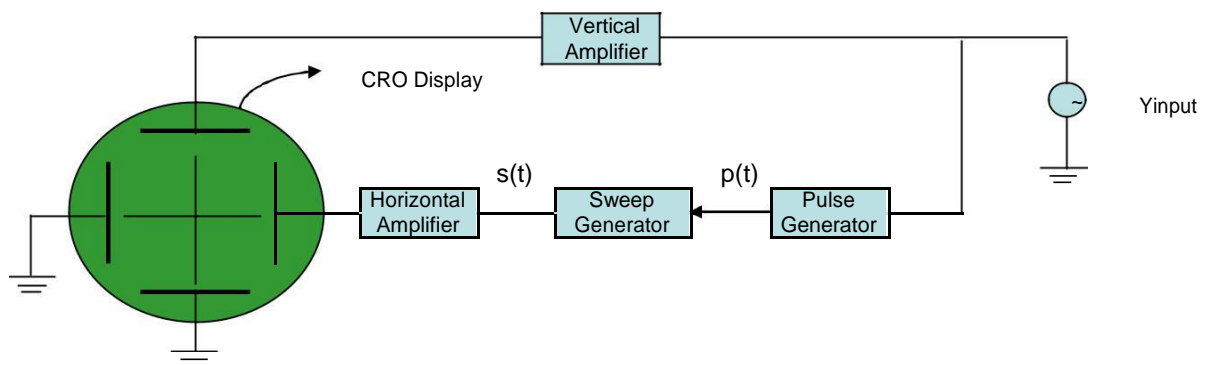
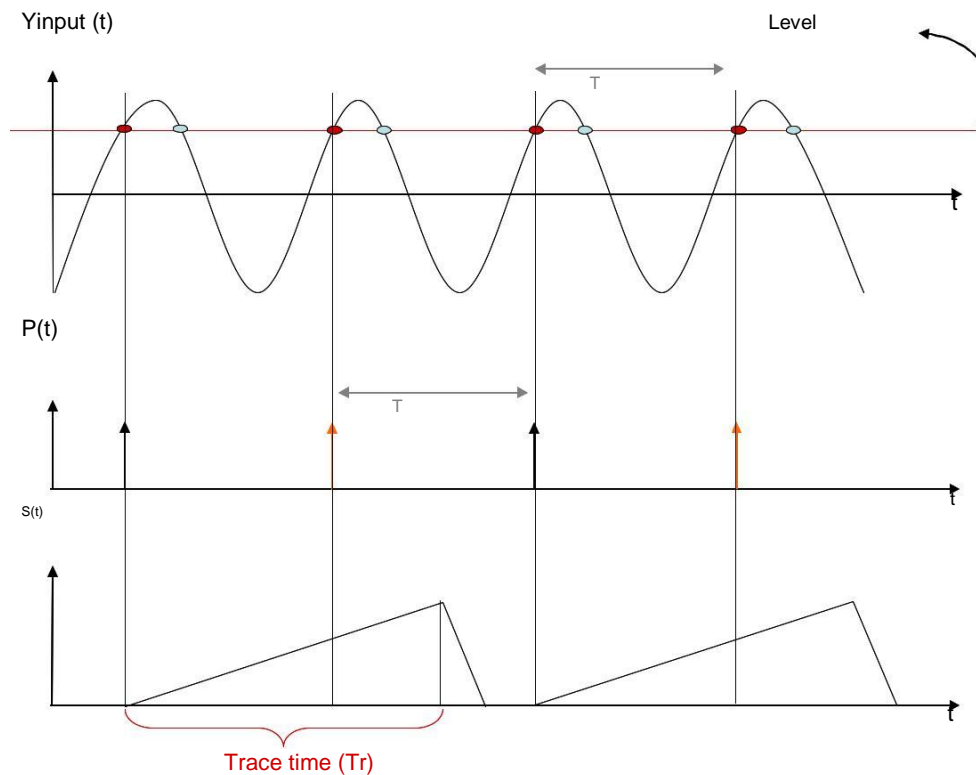

Figure 13
Figure 14
The main function of the pulse generator (PG) (see figure 13.) is to produce periodical pulses with a period of  $T$ , which is equal to the period of the input signal. For that purpose, the input signal is compared to a certain voltage level ('Level' on the figure 14). Producing pulses each time the input voltage is equal to that certain voltage level, may seem to result pulses which are periodic with period  $T$ . But this is not the case. Notice that, the 'Level' intersects the input signal more than once in one period. Therefore, one of the intersection points is neglected in each period. The decision on which intersection point to neglect is made by inspecting the slope of the signal at the intersection point.
The pulse generator produces pulses each time the input voltage level is same as the 'Level', after checking the slope of the signal at that time instant. In the example given in figure 14, there are two intersection points at each period, and the one with the negative slope (blue points) are neglected. (The selected slope is positive for that case). Actually, the sign of the slope can be selected by using the +/- button of the CRO. Also the voltage level that the signal is being compared to, can be adjusted by using the level button on the oscilloscope.